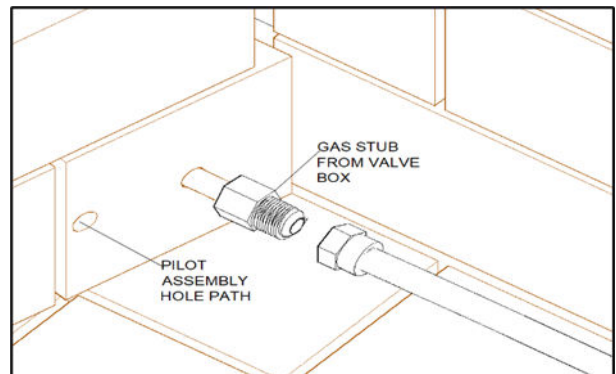

FIGURE 41
7. Connect the open end of 12" flex connector to the gas-supply. **Figure 41**